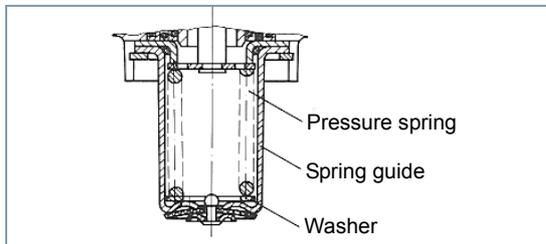

Fig. 8 Position of the washer
- Adjust pressure P6 on a max. predominance of max. 1.1 bar by inserting washers (see fig. 8).